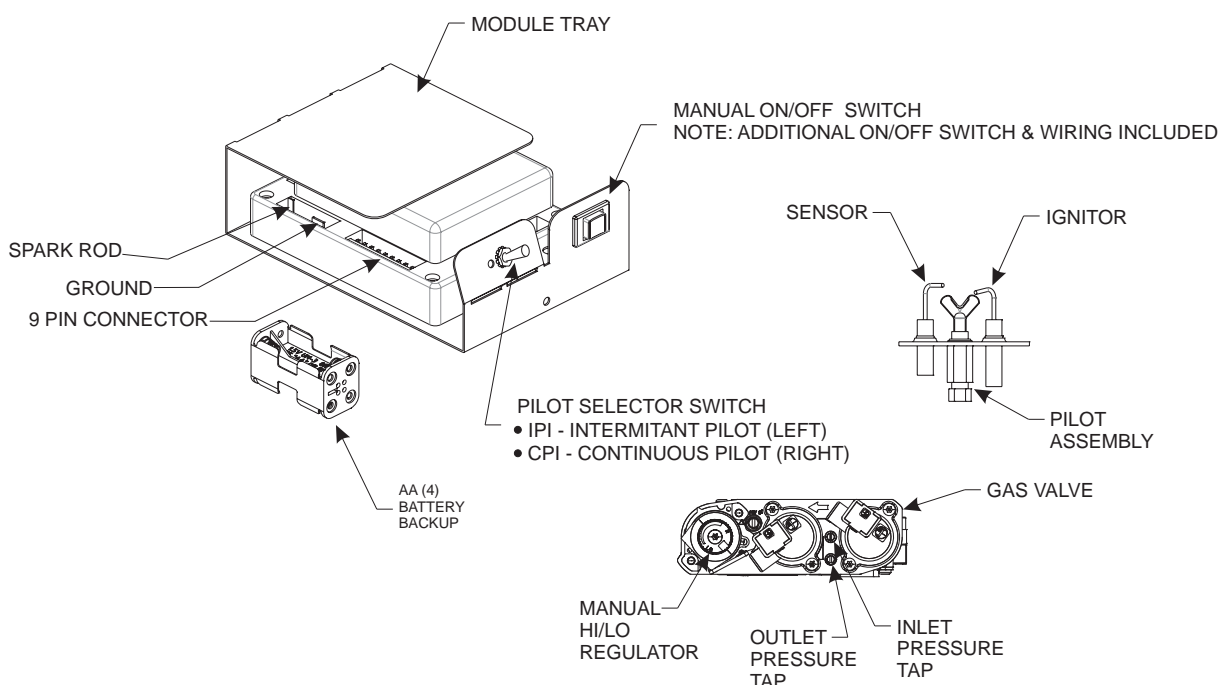

Figure 78
See Figure 78.
3. The gas valve has inlet and outlet pressure taps as shown in **Figure 78**. Refer to pages 8 and 17 for gas pressure requirements.
NOTICE: The gas control has a manual HI/LO flame adjustment knob (regulator) that allows you to increase or decrease the height of the burner flame. **See Figure 78.** Rotate the HI/LO knob counterclockwise to "HI" to increase the flame height, and clockwise to "LO" to decrease the flame height.
To connect the remote receiver to the appliance, first disconnect the ON/OFF switch wires from the white and green wire connectors and connect the wires from the remote receiver to the green and white wire connectors. **See Figure 78.**